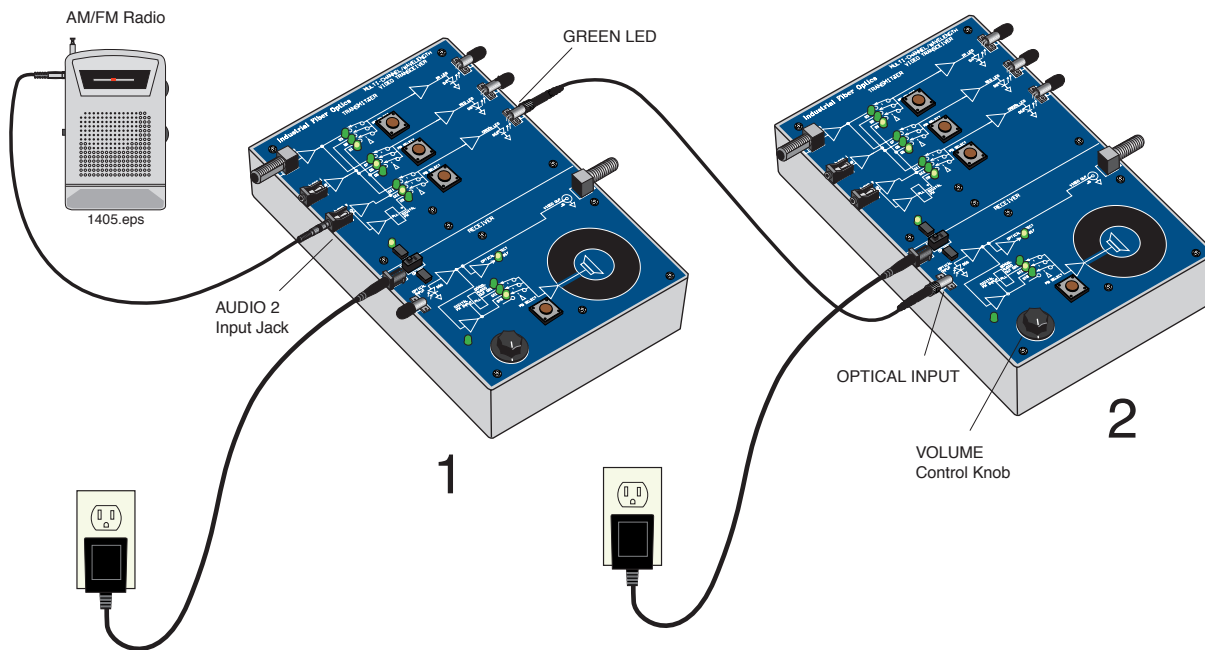

Figure 24. Equipment configuration for sending a radio signal over a 3-meter fiber cable.
2. Your equipment set-up in this experiment should look like the diagram in Figure 24. You may wish to refer to this figure as you complete the following steps.